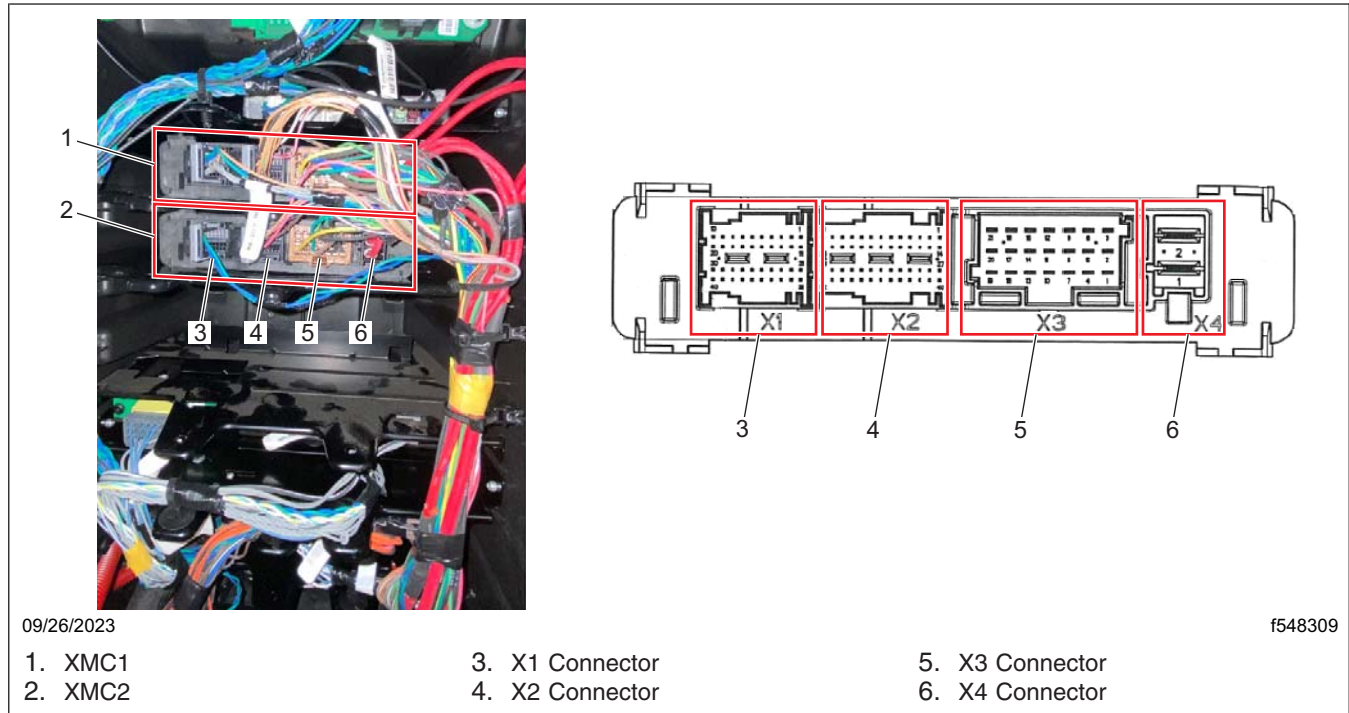

Fig. 41, XMC Location and Connector Identification
13.1 Identify which of the XMCs is XMC2. See Fig. 41.
- 13.4 Remove the X3 connector from XMC2 by squeezing the locking tab upwards while pulling the connector from the XMC. See Fig. 41 and Fig. 46.